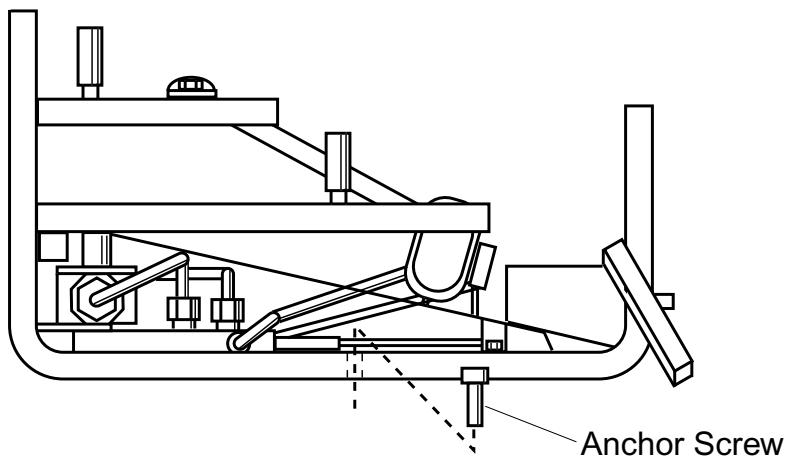

Figure 14 - Securing Heater to Floor of Fireplace/Firebox
2. See Figure 14 for hole locations. After centering the grate correctly, mark the hole positions on the fireplace/firebox floor. Drill two (2) $5/32"$ diameter holes approximately $1\frac{1}{2}"$ deep.
3. Anchor the grate to the fireplace/firebox floor using the screws provided. See Figure 14.